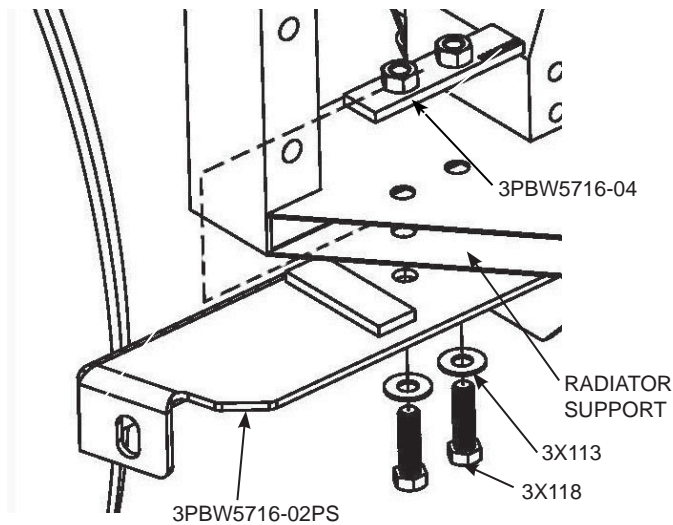

FIG. 1
- B. Attach bracket 3PBW5716-02PS by sandwiching radiator support by maneuvering strap 3PBW5716-04 into radiator support, then and assembling washers 3X113 and bolts 3X118 and thread into strap weld nuts. (Fig 1)